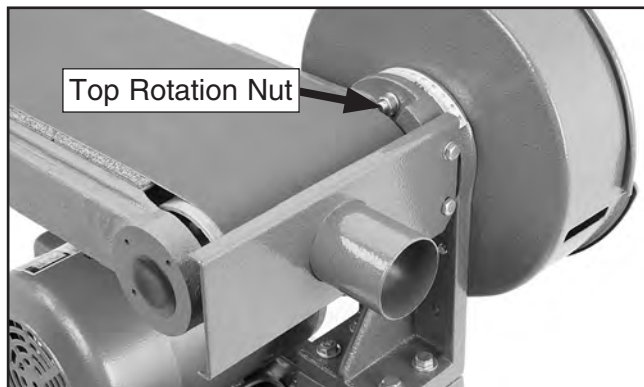

Figure 64. Location of top rotation lock nut.
5. Loosen the sanding frame rotation lock nuts (behind the sanding disc cover) as shown in **Figures 64 & 65**.